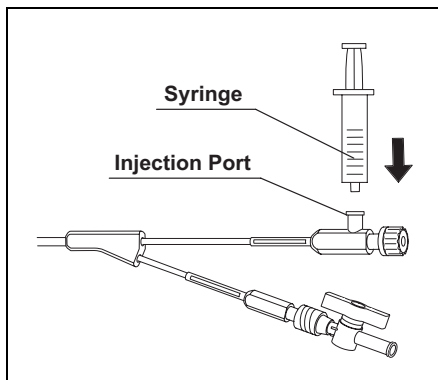

Figure 4.2
3. Inject contrast medium, medical fluid or saline into the instrument's injection port using a sterile syringe. Confirm that the fluid comes out of the distal end (see Figure 4.2).